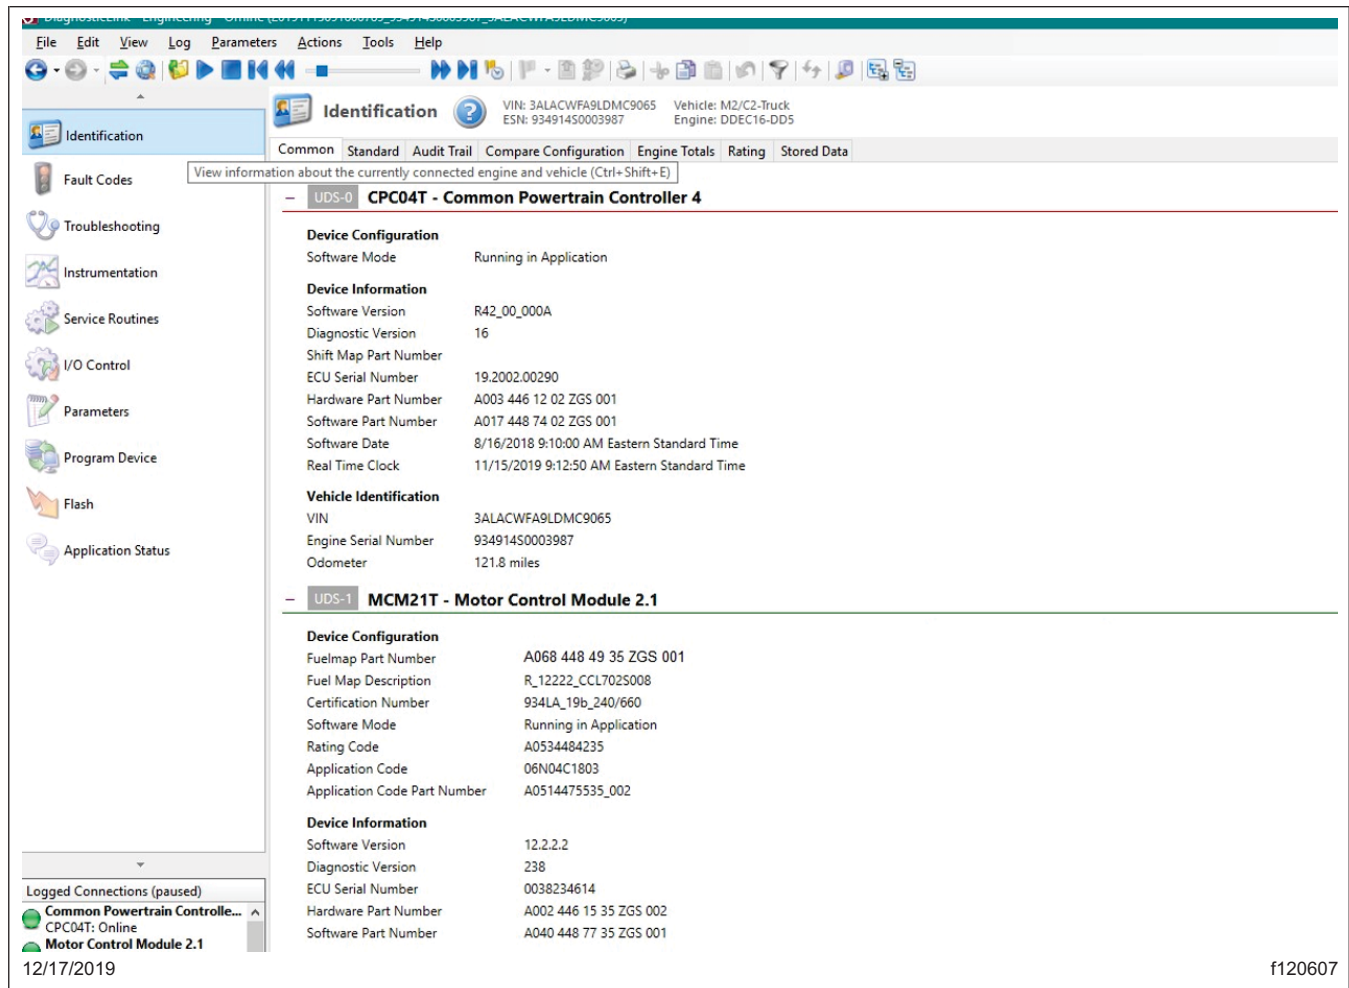

Fig. 7, Adding the Engine Serial Number and Connecting to Server
9. Select the "Add" button in the upper right corner of the DiagnosticLink® screen and enter the engine serial number. Then click the "Connect to Server" button in the bottom right corner of the DiagnosticLink® screen. See Fig. 7. to add the Engine Serial Number and Connecting to Server